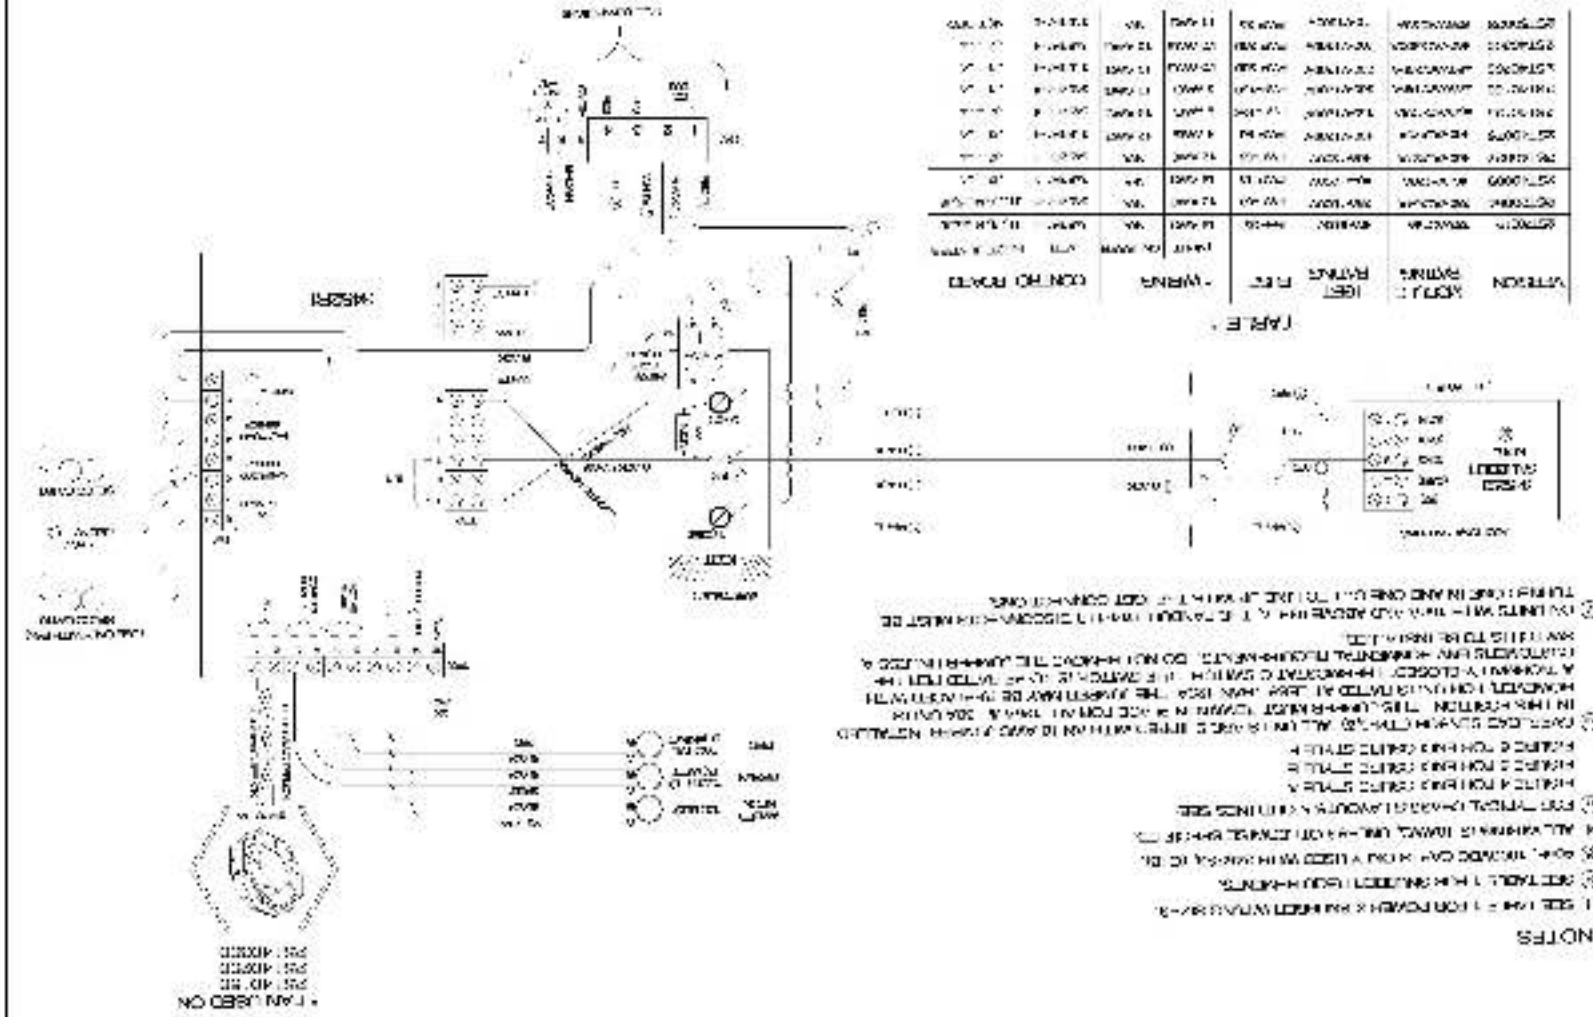

Figure 7 Electrical Connections (Cabinet Styles A, E and F)
- Step 7. Install the wiring between the drive, the Transistor Braking Unit, and the snubber resistors, as shown in figure 7. Use wire rated at a minimum of 300 volts for 230 VAC Units and 600 volts for 460 / 575 VAC Units.
Note that some local codes may require that the AC line field connections for the control voltage be fused. If required, fuse the AC line (connector TS1, terminals 6 and 7, as shown in figure 7). The following Reliance Electric parts are recommended: